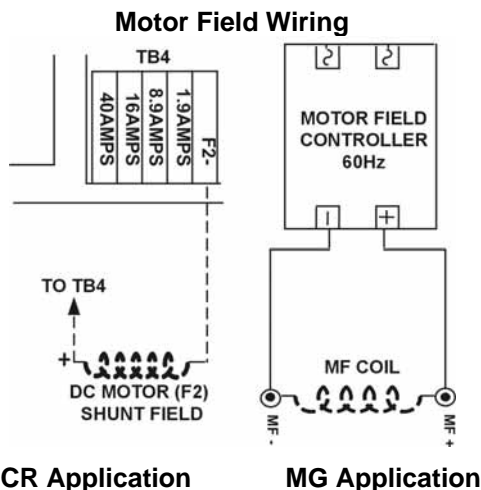

Figure 1-11
- The third circuit brings power to the Motor Fields (if a DC motor used). These 2 wires can be run with the motor wires. [See Figure 1-11.]